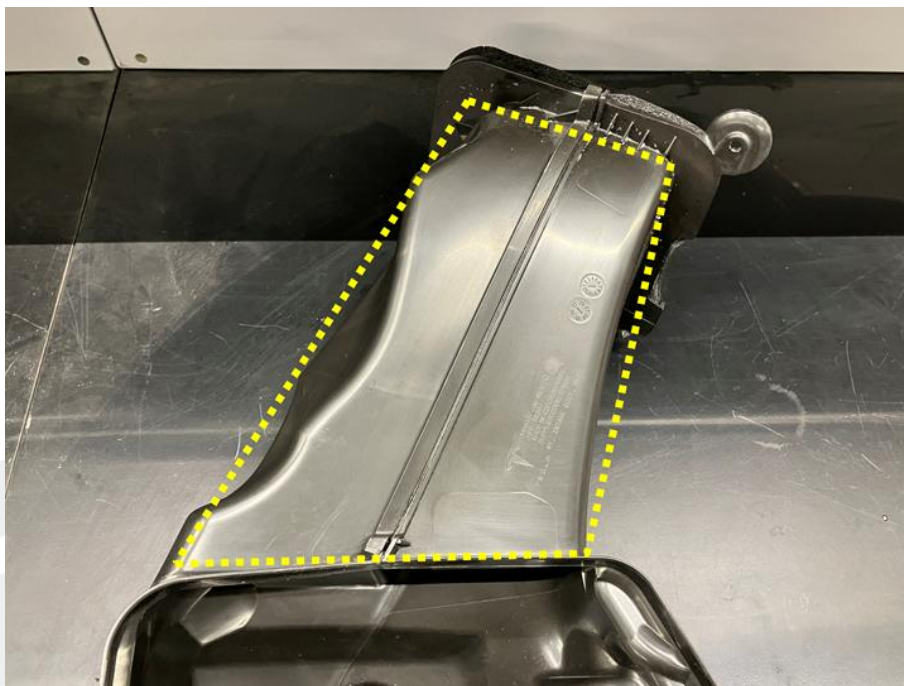

Figure 5
3. Clean the HEPA filter duct with IPA wipes and allow 1 minute to dry (Figure 5).